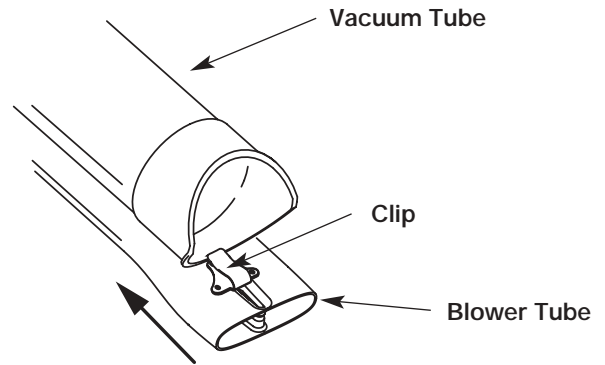

Fig. 3
2. Clip the blower tube to the end of the vacuum tube (Fig. 3).